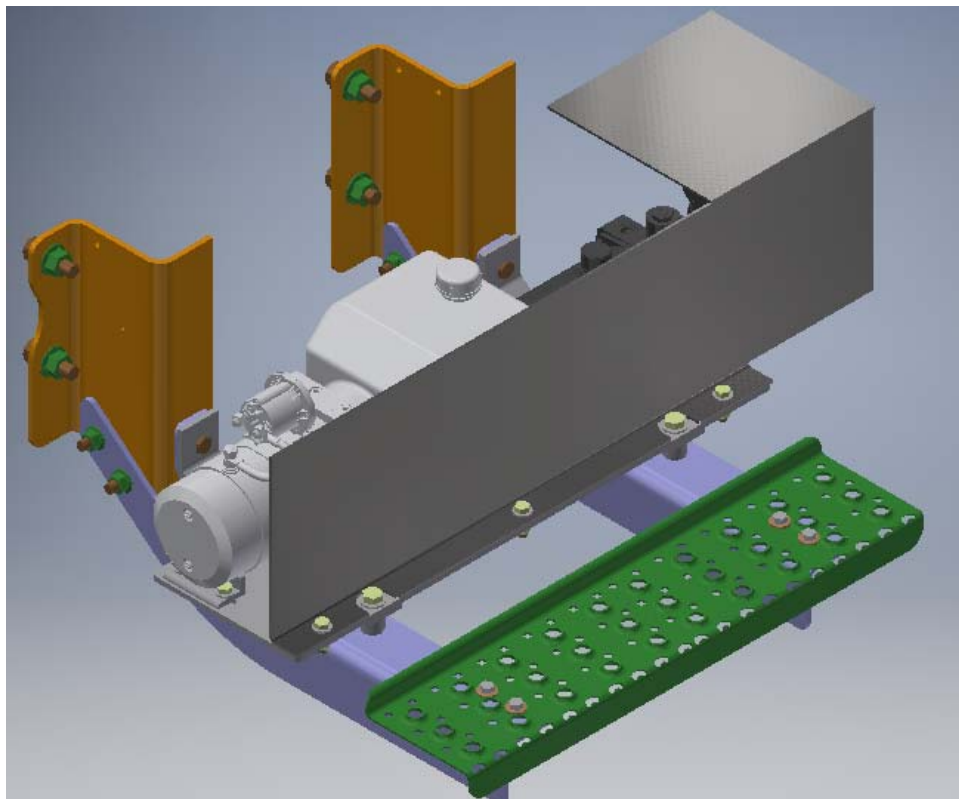

Figure 9: Pump Protection Box Installed
26. Once Brakes are fully tested, Install the Pump Protection Box (R-20484) using remaining 3/8" hardware. (Figure 9)